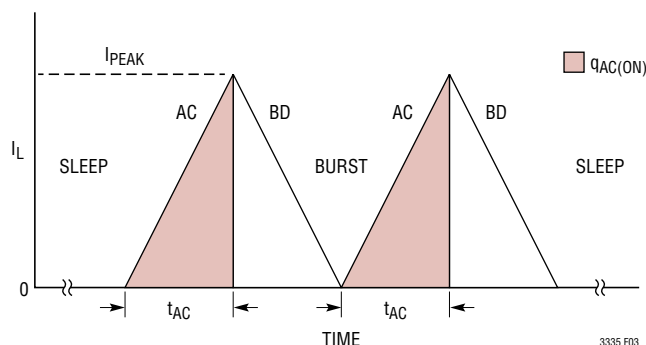

Figure 3
The LTC3335 integrates a precision coulomb counter to monitor the accumulated charge that is transferred from the battery whenever the buck-boost converter is delivering current to V_{OUT}. The buck-boost converter operates as an H-Bridge for all BAT/V_{OUT} conditions when not in sleep (see Figure 3). Switches A and C turn ON at the beginning of each burst cycle. Inductor current ramps to I_{PEAK} and then switches A and C turn OFF. Switches B and D then turn ON until the inductor current ramps to zero (I_{ZERO}). This cycle repeats until V_{OUT} reaches the sleep threshold.
If I_{PEAK} and the switch AC(ON) time (t_{AC}) are both known, then the BAT discharge coulombs (shaded area in Figure 3) can be calculated by counting the number of AC(ON) cycles and multiplying by the charge per AC(ON) cycle given in Formula (1) below: